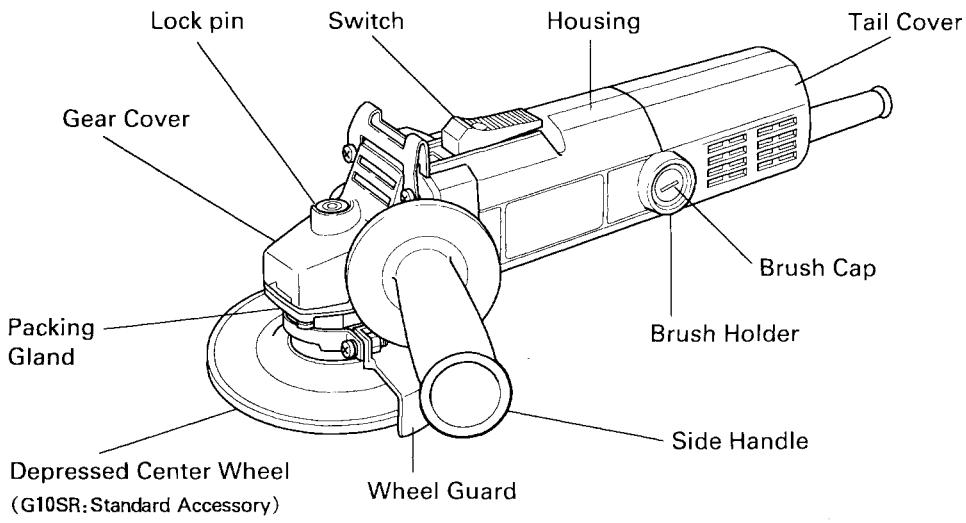

Fig.1
1. Hold the grinder firmly by its housing and side handle (Fig. 1).
Remove the brush caps (Fig. 1) with a slotted screwdriver. The carbon brushes can then be easily removed.